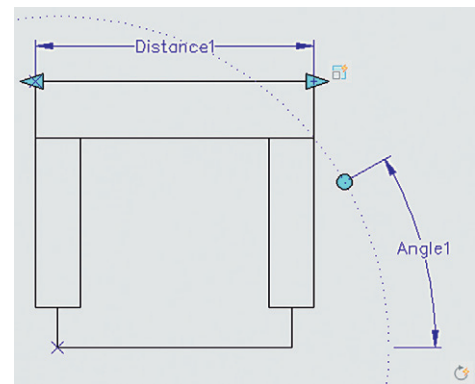

FIGURE 7.12
- Step 3.** Now, you can add actions associated with those parameters. Pick the Actions tab and pick Scale. Then, select the Parameter and the Objects (the chair), as prompted. Repeat the same steps for the rotation. The result is shown in Figure 7.12. Notice the new (faded) scale and rotate symbols.